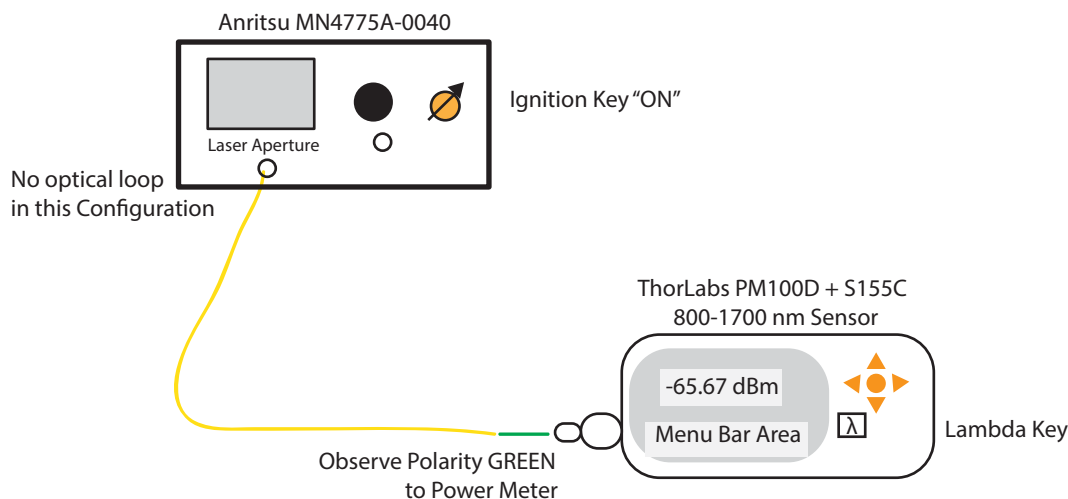

Figure 3-28. Optical Power Measurement – 850 nm Configuration
- a. Connect PM100D OPM to E/O Converter Output via Optical Cable, as shown in Figure 3-28.